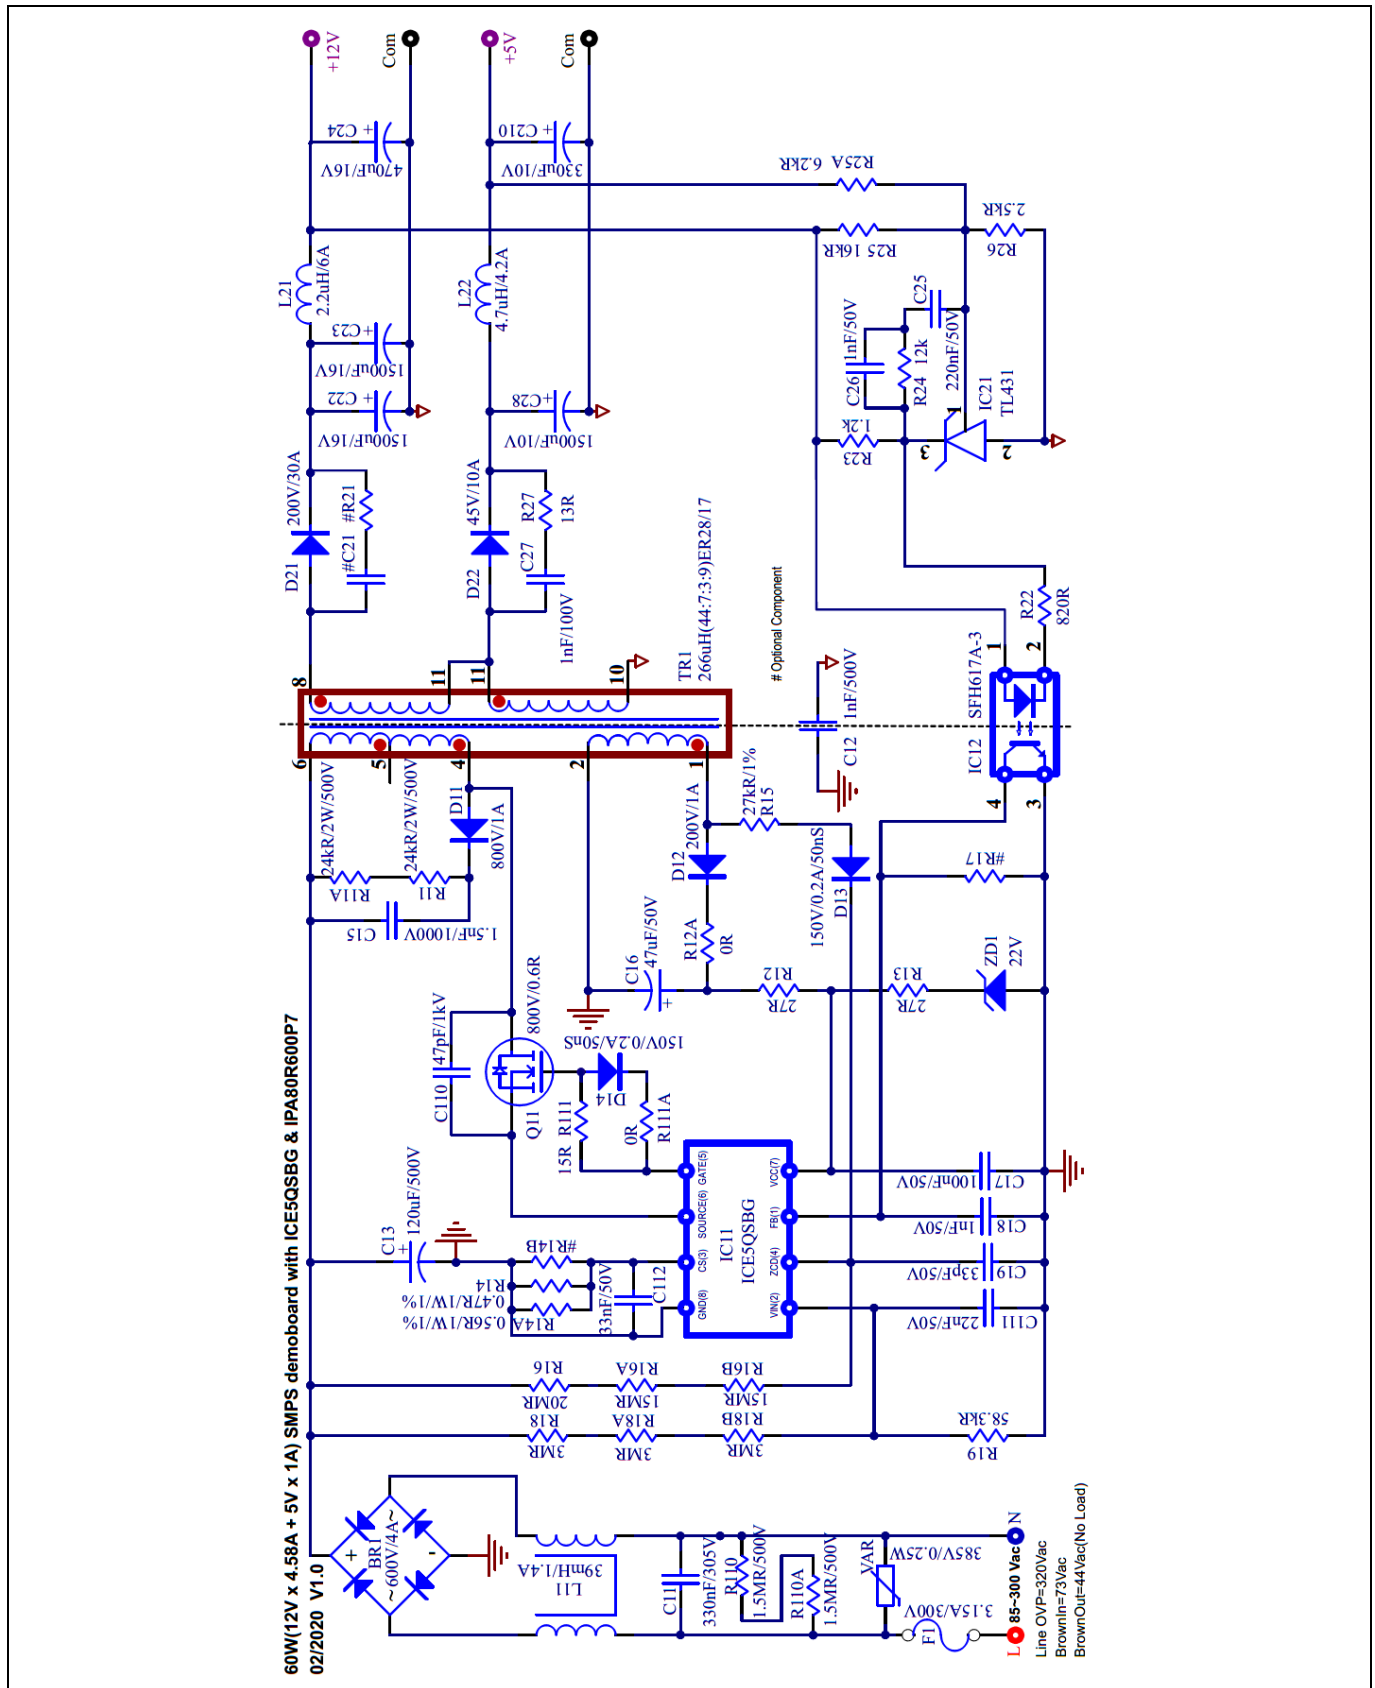
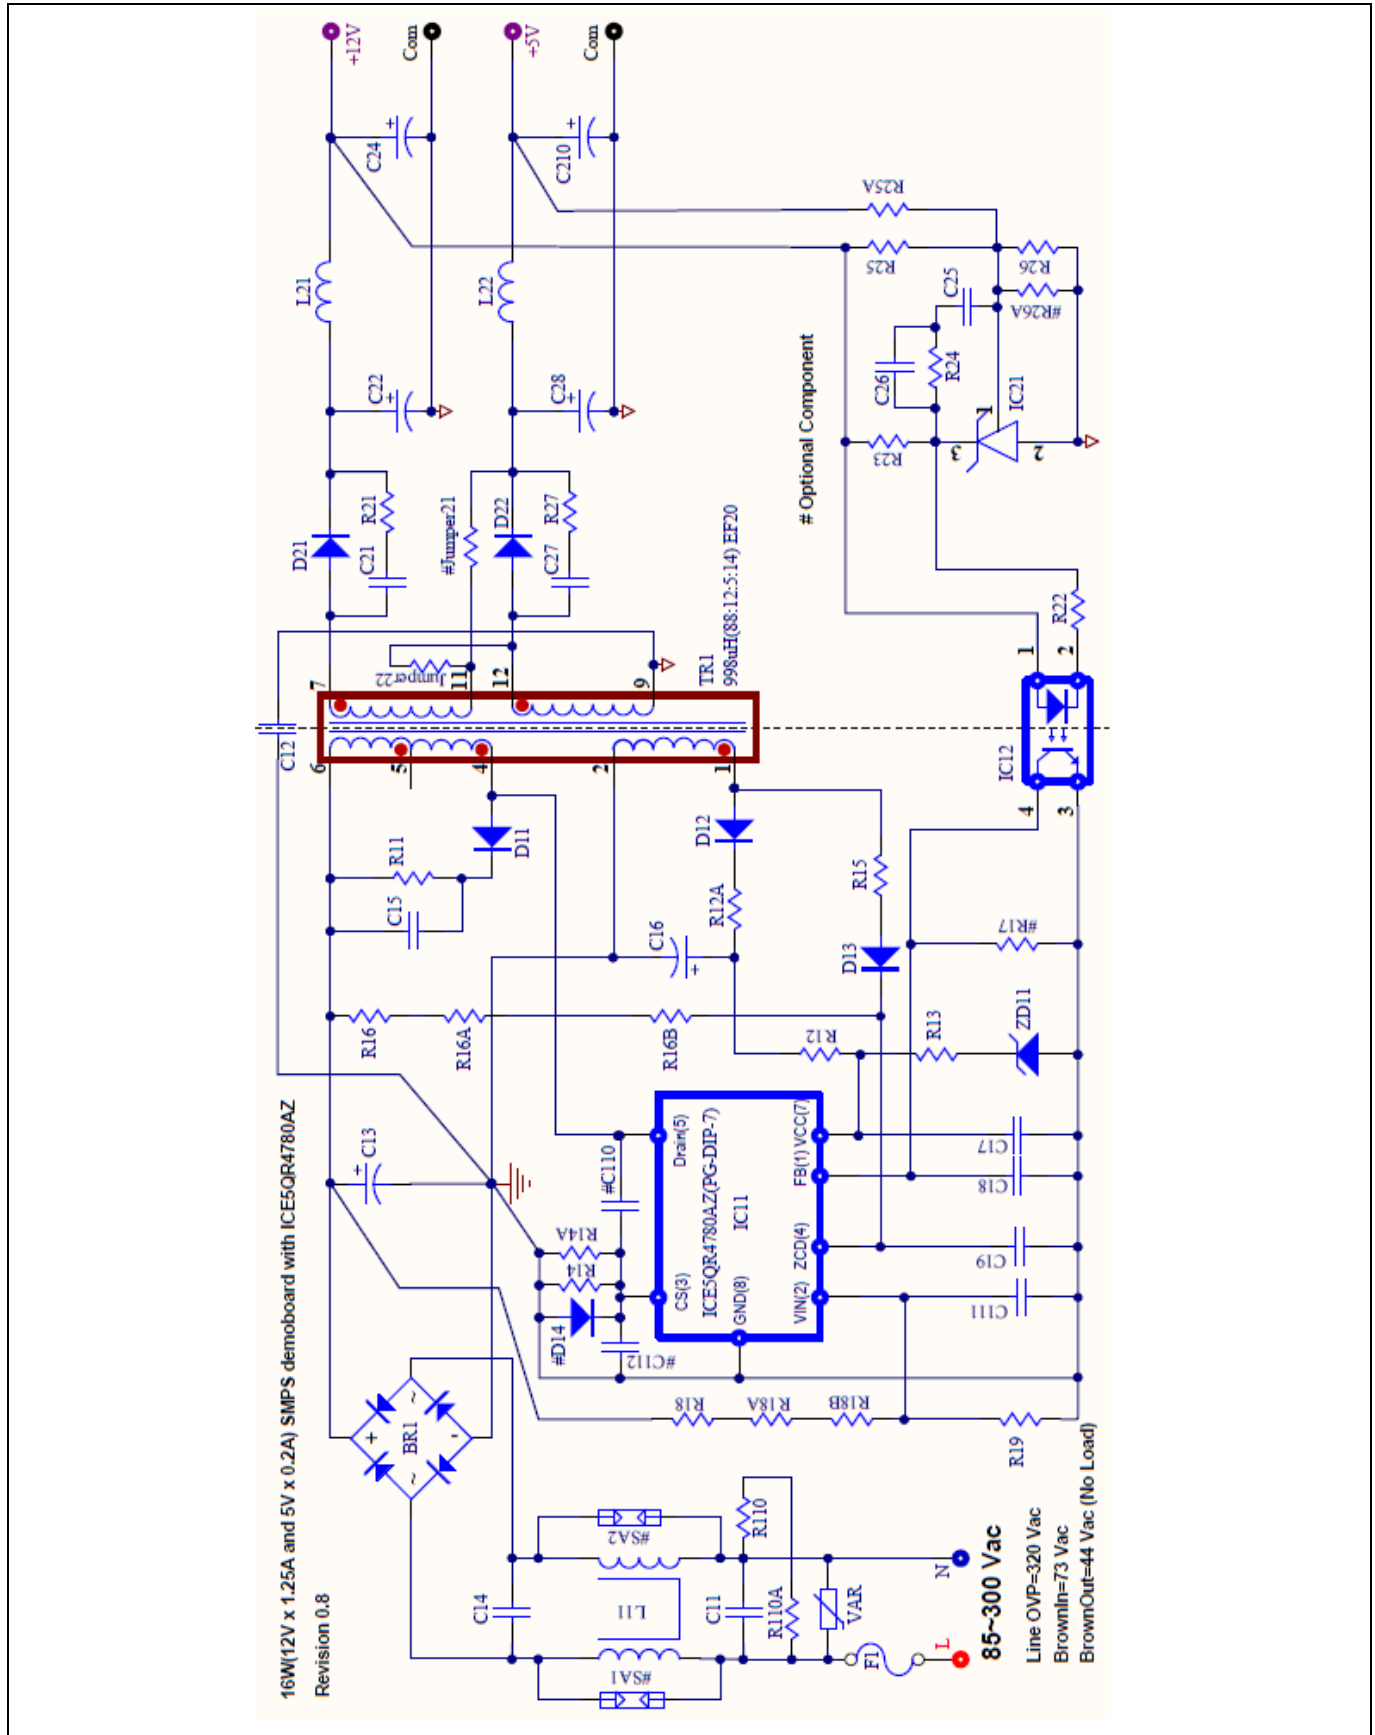

Figure 11 Schematic of DEMO_5QSBG_60W1
Figure 12 Schematic of DEMO_5QR4780AZ_16W1
Note: In case of higher switch-on noise at the CS pin, the IC may switch off immediately after LEB time especially at light-load high-line conditions. To avoid this, noise-filtering ceramic capacitor C112 (e.g., 100 pF~100 nF, see Figure 12) can be added.
In a power-supply system, PCB layout is key to a successful design. Following are some suggestions for this (see Figure 11 and Figure 12).
1. Minimize the loop with pulse-share current or voltage; examples are the loop formed by the bus voltage source, primary winding, main power switch (Q11 (see Figure 11) in the controller and CoolSET™ power switch CoolMOS™ inside the IC) and current sensing resistor or the loop consisting of secondary winding, output diode and output capacitor, or the loop of the V_{CC} power supply.
- ii. 700 V/800 V traces (drain pin of power switch Q11 (see Figure 11) in controller and drain pin of CoolSET™ IC11 (see Figure 12)) to nearby trace: > 3 mm.